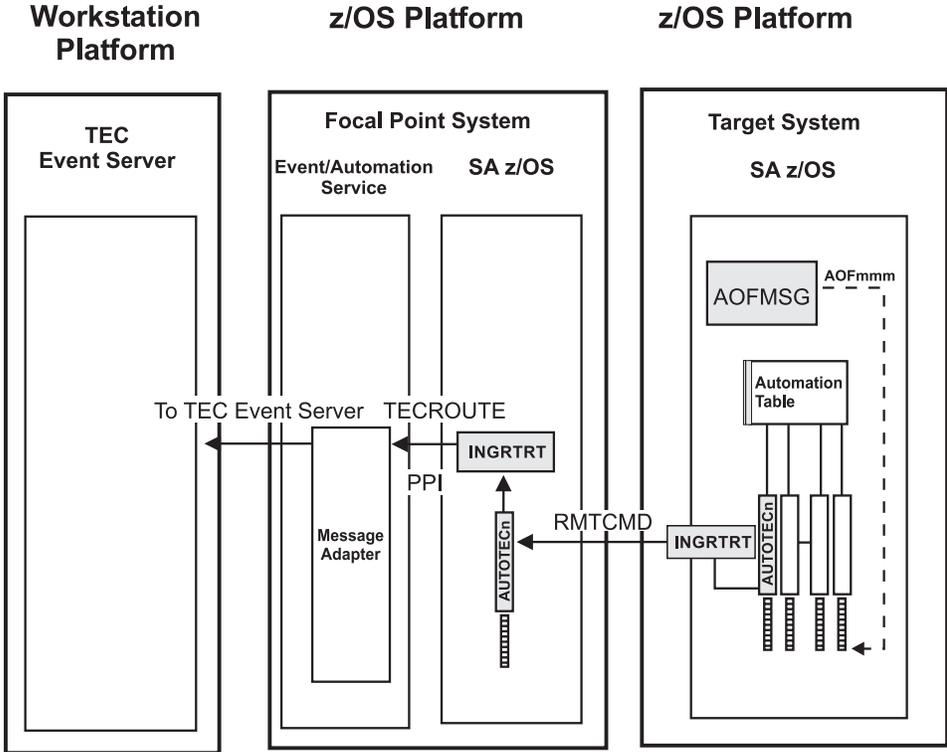

Figure 7. Distributed Configuration: NetView Event/Automation Service Remote to the SA z/OS Source of Messages
- Distributed Configuration:** The message adapter or alert adapter is running on an z/OS system different from the one on which SA z/OS is running and issuing messages and alerts. In this scenario, the z/OS system running the adapters must be the SA z/OS automation focal point system. Such a configuration for message forwarding is illustrated in Figure 7 on page 47.